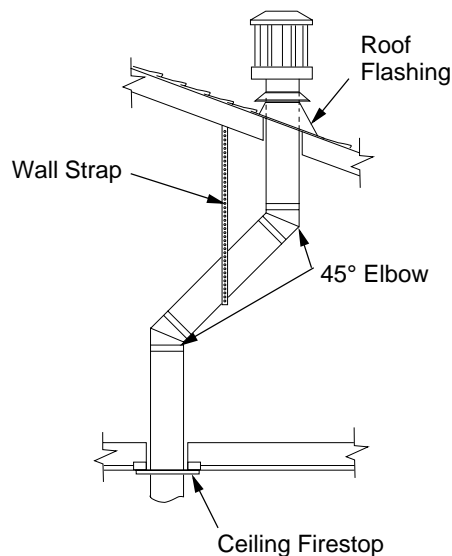
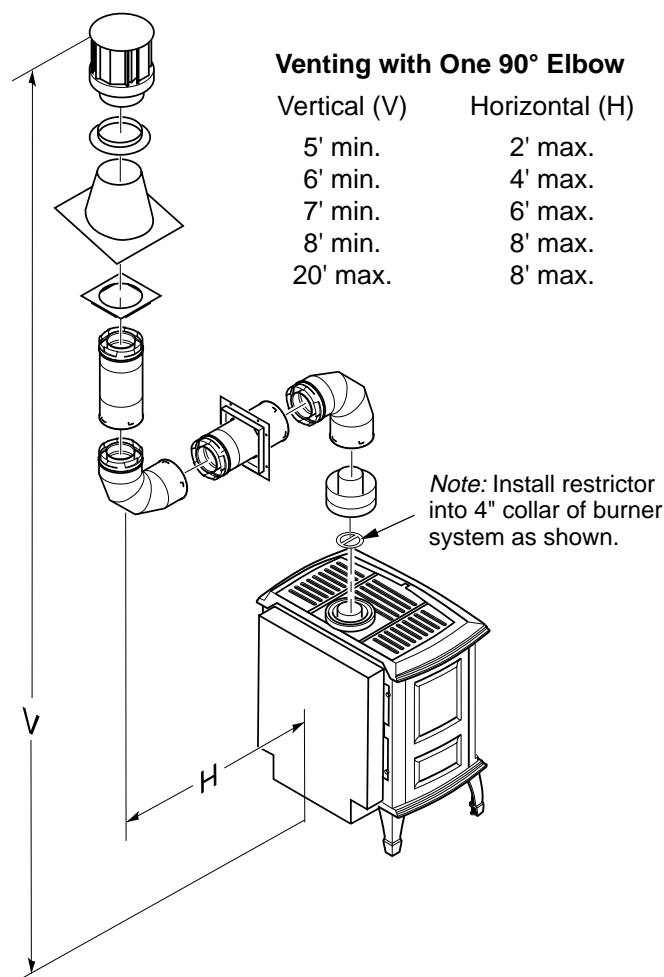

Figure 32 - Offset with Wall Strap and 45° Elbows
Figure 36 - Vertical Venting Configuration Using One 90° Elbow
1. Determine the route your vertical venting will take. If ceiling joists, roof rafters, or other framing will obstruct the venting system, consider an offset (see Figure 32) to avoid cutting loadbearing members. **Note:** Pay special attention to these installation instructions for required clearances (air space) to combustibles when passing through ceilings, walls, roofs, enclosures, attic rafters, etc. Do not pack air spaces with insulation. Also note maximum vertical rise of the venting system and any maximum horizontal offset limitations. Offsets must fall within the parameters shown in Figures 36 through 38, pages 17 and 18.
Note: If an offset is needed to avoid obstructions, you must support the vent pipe every 3 feet. Use wall straps for this purpose (see Figure 32). Whenever possible, use 45° elbows instead of 90° elbows. The 45° elbow offers less restriction to the flow of the flue gases and intake air.
5. Place the flashing over the pipe section(s) extending through the roof. Secure the base of the flashing to the roof and framing with roofing nails. Be sure roofing material overlaps the top edge of the flashing as shown in Figure 32. There must be a 1" clearance from the vent pipe to combustible materials.
Figure 36 through 39 show four different configurations for vertical termination. All connections must be sealed with high temperature silicone sealant as specified in the second warning statement on page 12.